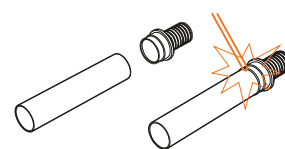

Fig. B10.2.1
1. Before installation of a compression connector on service pipe, the building's pipe system must be welded to the internal side of the steel coupler. If the welding of the steel has to be done later, weld a short piece of steel pipe (at least 400 mm length), which later can be welded to a final connection point (Fig. B10.2.1).